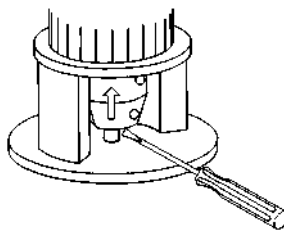

**Fig. 16** Raising the coupling and the pump shaft
3. Raise the coupling and the pump shaft as far as possible (towards the motor) with a screwdriver or a similar tool so that the pump and motor shafts touch each other. See fig. 16.